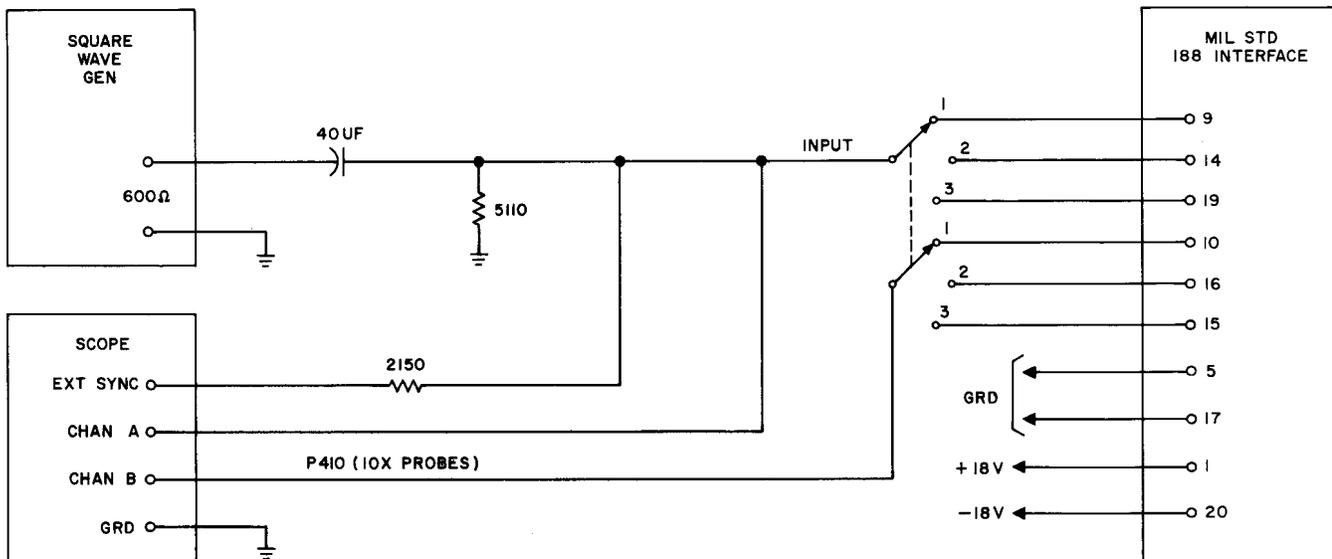
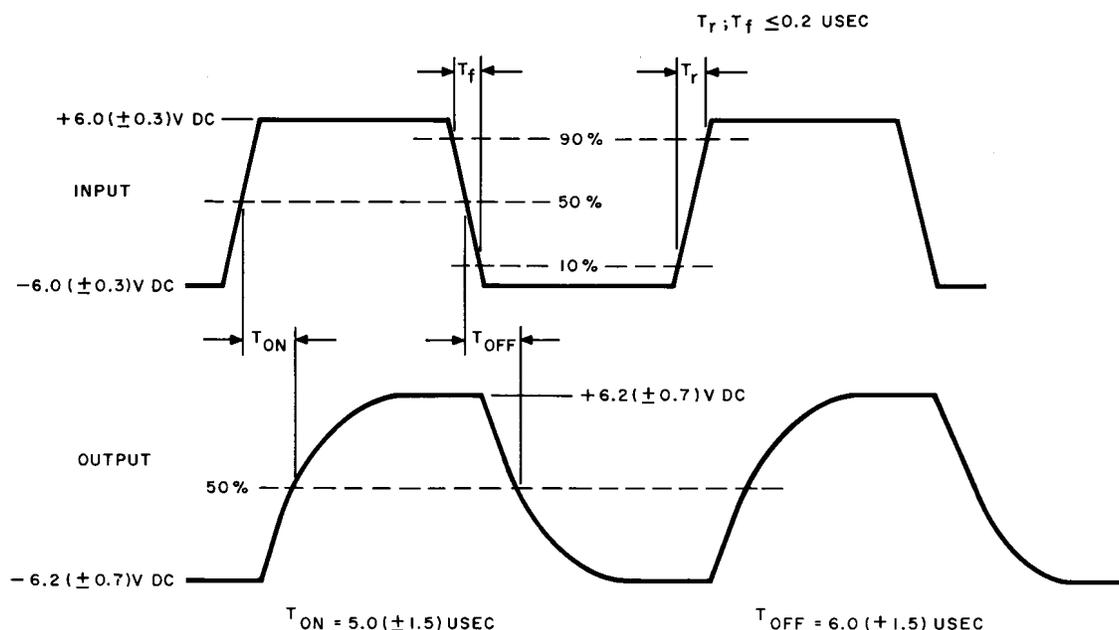

Fig. 65A—MIL. STD 188B Interface Test Circuit
Fig. 66A — MIL. STD 188B Interface Test
(1) With the circuit pack connected to the suggested test circuit shown in Fig. 65A, connect +18.0 (± 0.5) Vdc to terminal 1, -18.0 (± 0.5) Vdc to terminal 20, and ground to terminals 5 and 17.
(2) Set the frequency of the square-wave generator to about 5000 Hz with a duty cycle of 50 percent.
(3) Set the scope EXT SYNC TRIGGER selector to the (+) positive position.
(4) The input waveform should be as specified in Fig. 66A.
(5) Observe the output of each of the three interface drivers by rotating the switch through positions 1 to 3. At each position, the output shall be as specified in Fig. 66A.
(6) Set the scope EXT SYNC TRIGGER selector to the (-) negative position. Rotate the switch through positions 1 to 3. The output waveform at each position shall be as specified in Fig. 66A.